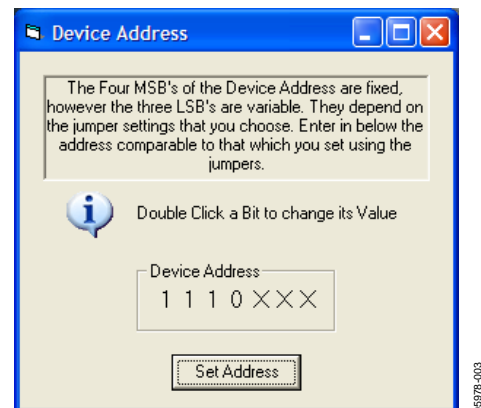

Figure 3. I2C Address Selection
2. This brings up the **Device Address** dialog box (see Figure 3).